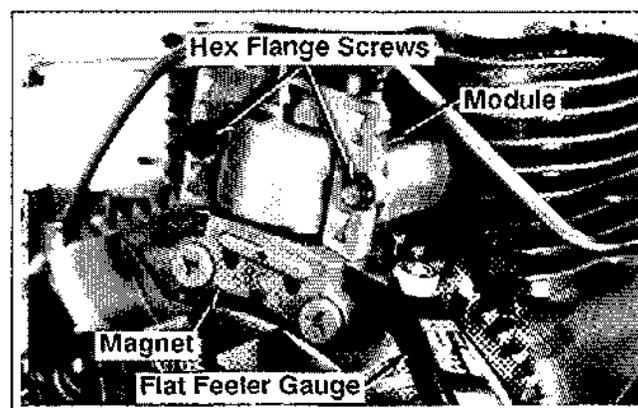

Figure 11-25. Installing Ignition Module.
2. Insert a 10 mm (0.394 in) flat feeler gauge or shim stock between the magnet and ignition module. See Figure 11-25.